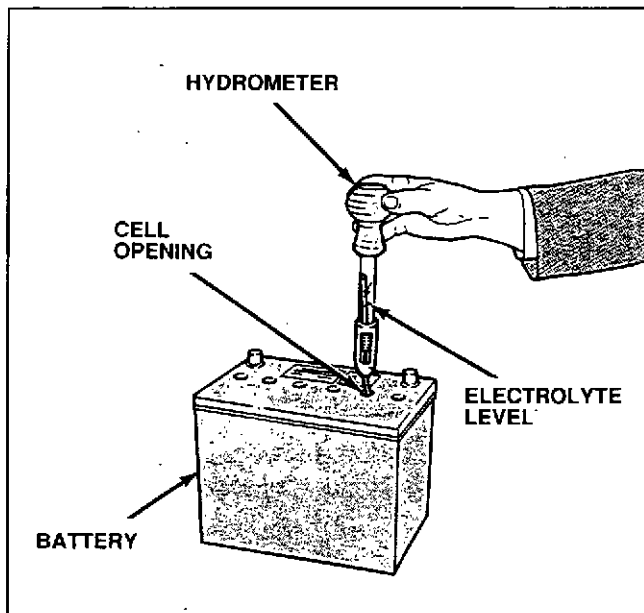

Figure 3-8 Testing Specific Gravity With a Hydrometer
4. Insert the hydrometer pick-up tube into a cell with the bulb squeezed tightly by thumb pressure (Figure 3-8).